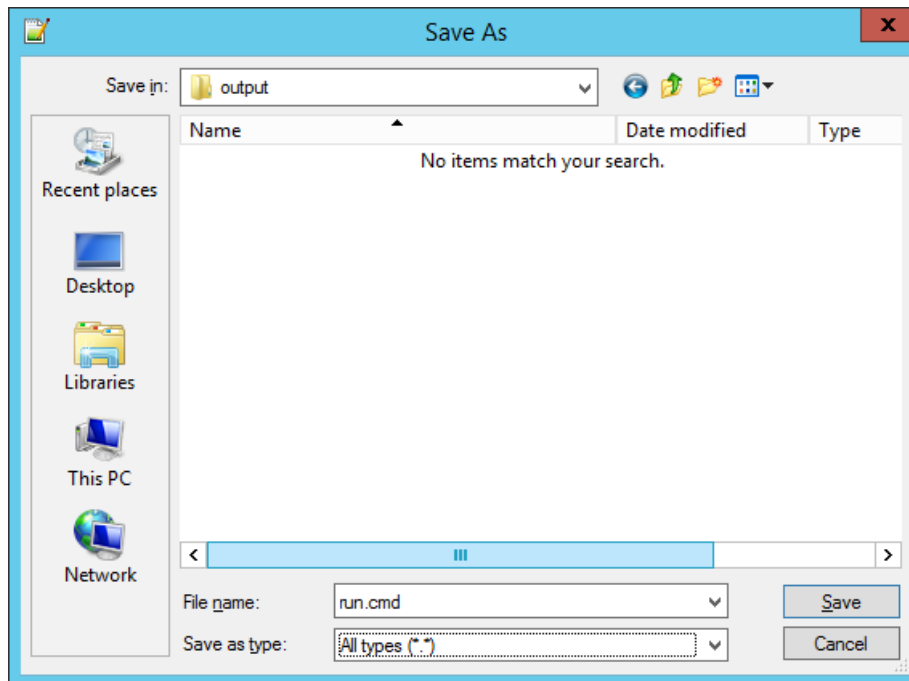

Figure 4: Create batch file for runCommand
4. **runCommand** - main entry point to your tool. It is *strongly* recommended that you use a batch file and then call python/java or other tools, see Figure 4 and 5. (For failed executions exit with error code != 0.)